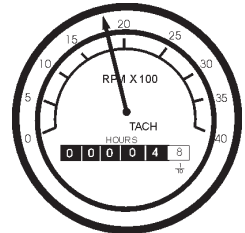

Figure 38. Engine Tachometer Gauge
9. The **tachometer gauge** (Figure 38) will indicate the speed of the engine when the generator is operating. Under normal operating conditions this speed is approximately 1800 RPM's.